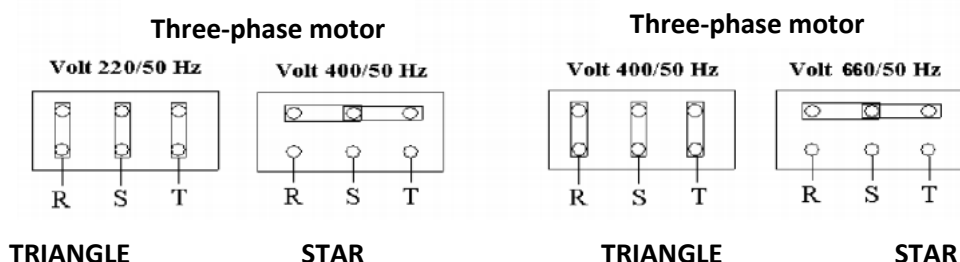

Figure 4 Jumper connections inside the motor terminal box.
T.G.E. fans, except in rare cases, are driven by three phase electric motor. Depending on the supply voltage and independently of the supply frequency, the positioning of jumpers on the motor terminal box changes and how they do it is shown in Figure 4.